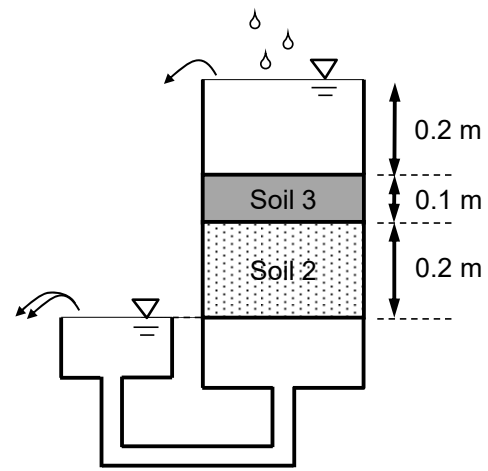

Figure 2
A second constant head permeability test, with Soil 2 and Soil 3 placed as shown in Figure 2 using the same permeameter, gives the flow rate, Q_2 , which is found to be equal to the flow rate, Q_1 , shown in Question (1). The hydraulic conductivity of Soil 2, k_2 , is known, ($k_2 = 6.0 \times 10^{-4}$ m/s), while the hydraulic conductivity of Soil 3, k_3 , is unknown. The cross-sectional area of the specimen is 1.0×10^{-2} m².
- (3) Determine the equivalent hydraulic conductivity in the vertical direction, k_V , when Soil 2 and Soil 3 shown in Figure 2 are regarded as one unit layer.
- (4) Determine the hydraulic conductivity of Soil 3, k_3 .
- (5) Determine the pressure head at the boundary between Soil 2 and Soil 3.